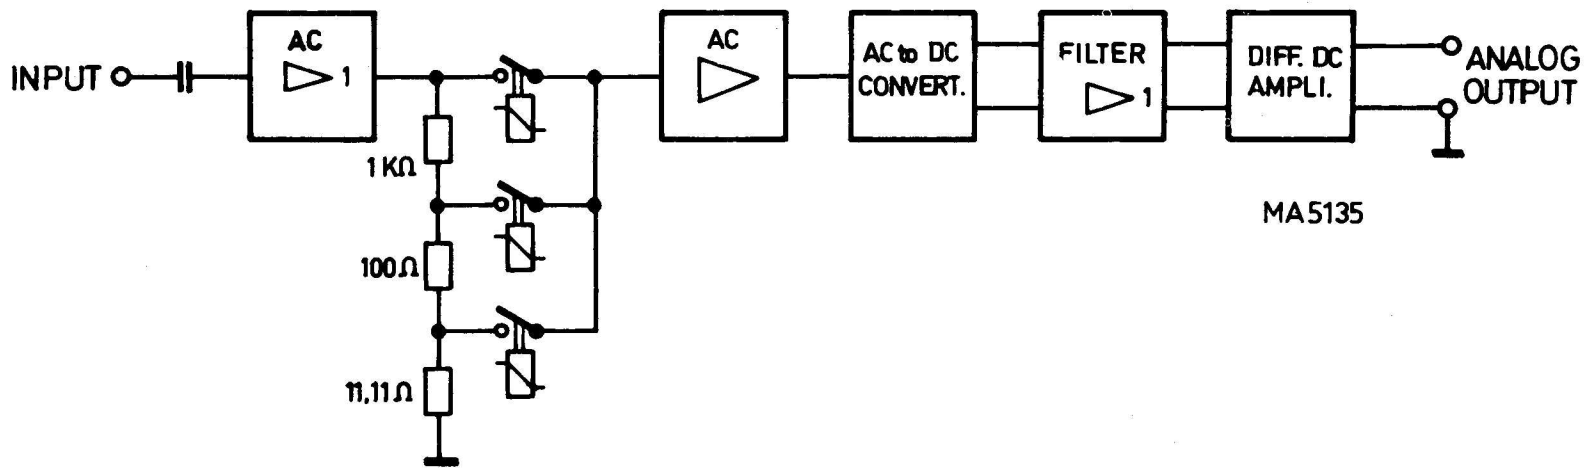

Fig. 7. A.C. measuring circuit
2. A. C. measurements (Fig. 7)